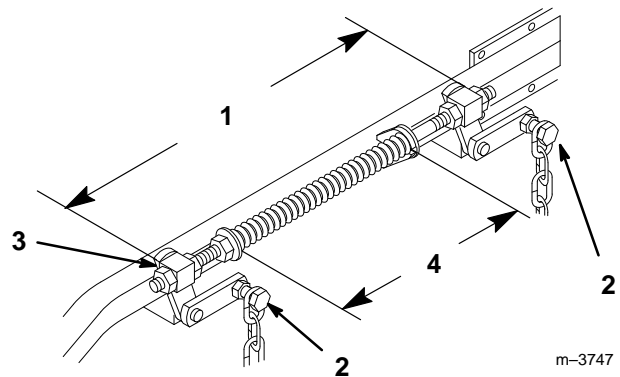

Figure 43
6. Loosen four (4) top chain bolts in slots. Check the length of the rod/swivel assemblies. Distance from outside of rear swivel to outside of front swivel should be 20-1/4" (514 mm) (Fig. 43). Make sure that all four swivels move freely in holes.
8. Lift up on four (4) top chain attachment bolts, in the slots, to take slack out of chains and tighten flange lock nuts. (Deck is still supported by two rear and one front blocks under mower)
2. Springs are compressed so the distance between the two large washers should be 11" (279 mm) (Fig. 43).
3. Adjust by turning nut in front of each spring (Fig. 43). (clockwise will shorten spring, counter-clockwise will lengthen spring)